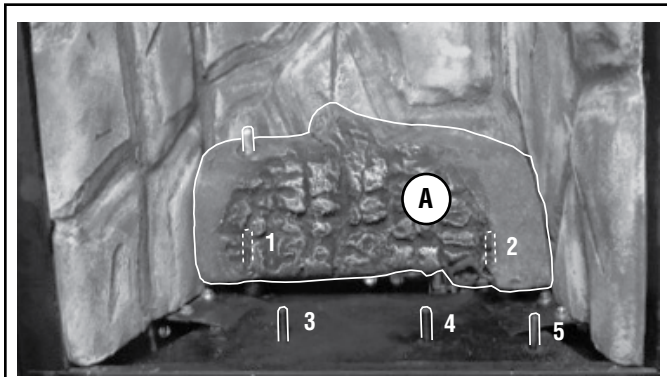

Figure 44 - Install Rear Log (A)
1. Place the rear log (A) as shown in Figure 44. Position the 2 holes on the bottom of the log over the corresponding locating pins (#1 & #2) and against the log support bracket. See Figures 43 and 44 for pin and rear bracket locations.